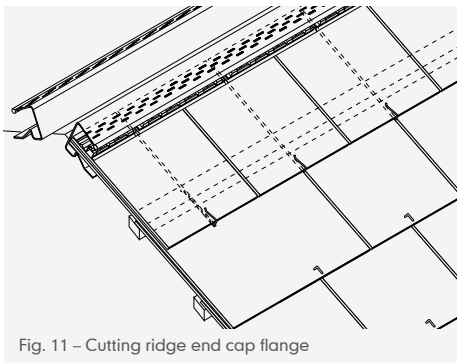

Fig. 11 – Cutting ridge end cap flange
- 3 For slate-and-a-half abutting verge, cut a 3mm wide slot parallel to verge from the head of slate down to point where leading edge of top course slate will be (Fig. 11).